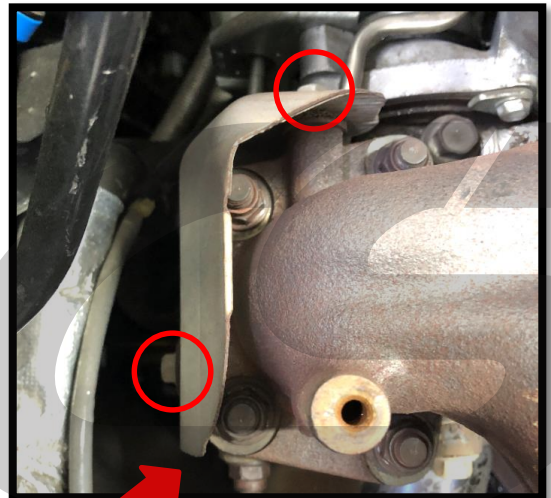

Figure 6c
d) Remove the three 8mm bolts from the turbine housing heat shield. Shown in red in **Figure 6c**. Note, the bolt shown with the arrow is on the underside of the turbo and is difficult to see from the top side.